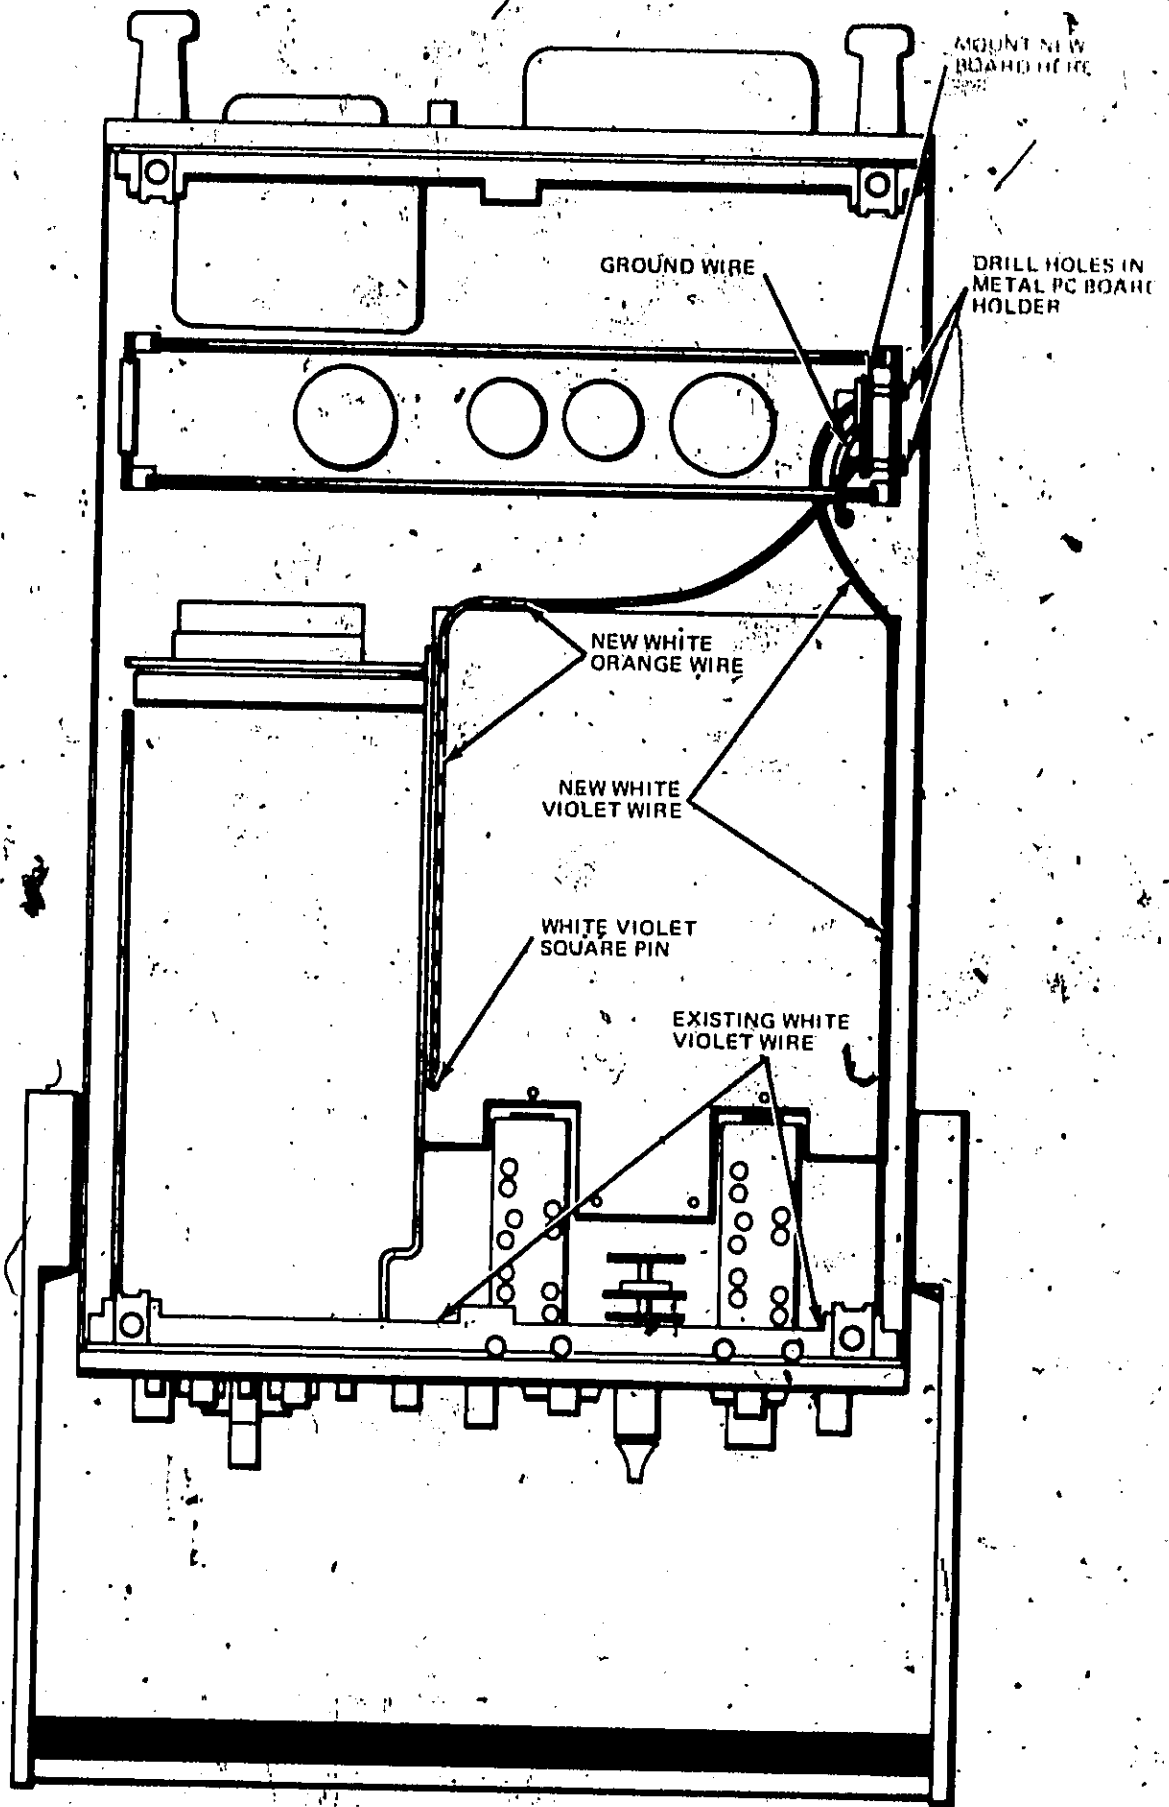

FIGURE 1. BOTTOM VIEW OF MODEL 1710A
3. Disconnect the White/Violet wire from the square pin connector on vertical preamplifier board (see Figure 1). Pull this wire completely out of the wire harness assembly and discard.
5. Using the PC board as a template, mark, centerpunch and drill 2 1/8 inch holes in the low voltage power supply board aluminum holder (see Figure 1).